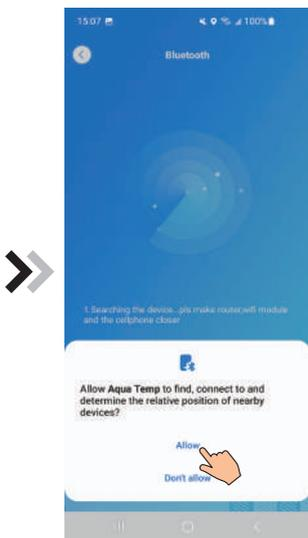

Fig.25 Enable location permission
5. Click "Allow" to enable bluetooth permission (Fig. 25);